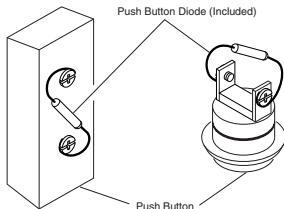

Figure 6
- If a diode is not already installed on the push button being used, connect the supplied diode to the push button screw terminals as shown in Figure 6.